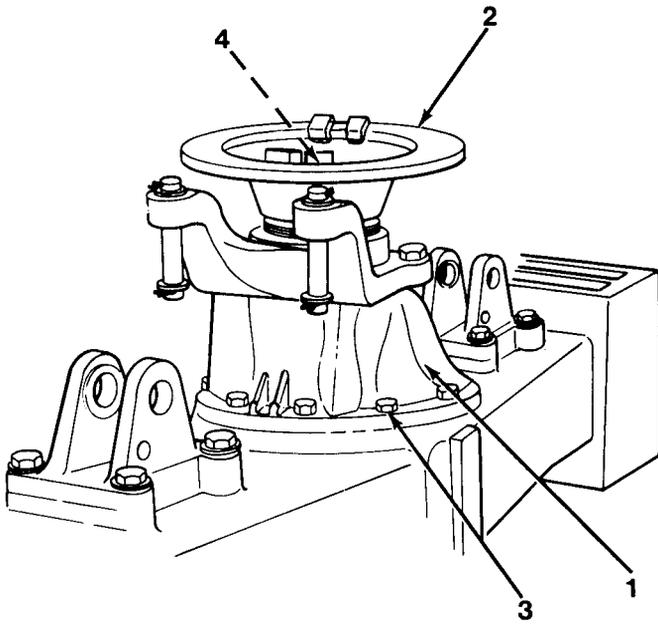

Figure 12-1
4. Lower and tap differential assembly (1, Figure 12-1) with a mallet to seat in axle housing.
6. Apply Loctite 272 to 10 differential mounting bolts (3) and install.
7. Torque bolts (3) to 58 lb-ft (79 N•m).
9. Fill differential assembly (1) with oil (refer to page 3-57 and Lubrication Chart).